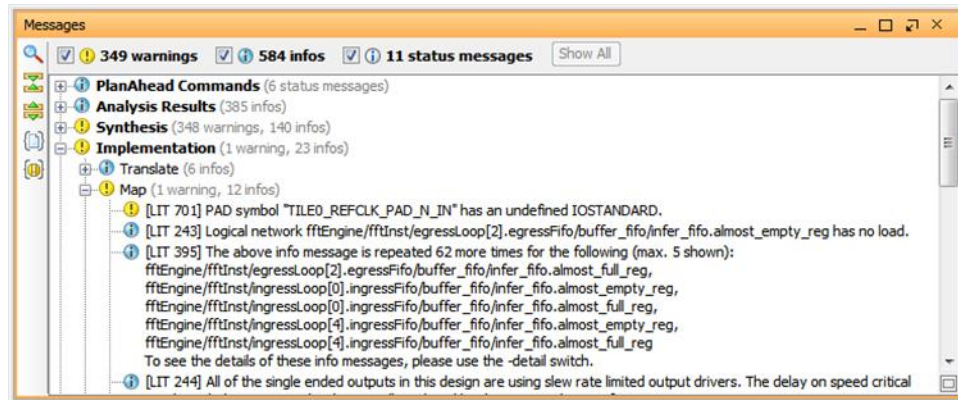

Figure 24: Implementation Messages
16. Use the **Expand Map** folder to see the messages generated by this tool, as shown in FIGURE 24.